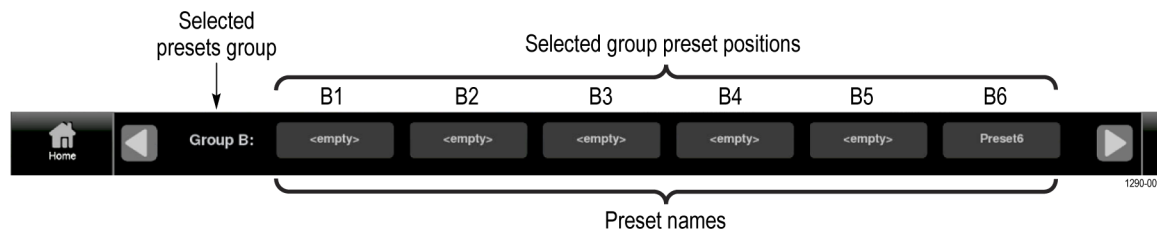

Figure 34: Preset selection controls (Group B shown)
- e. When you select OK, the preset name changes from **<empty>** to **Preset<number>**, where the number is the preset position within the preset group. (See Figure 34.)